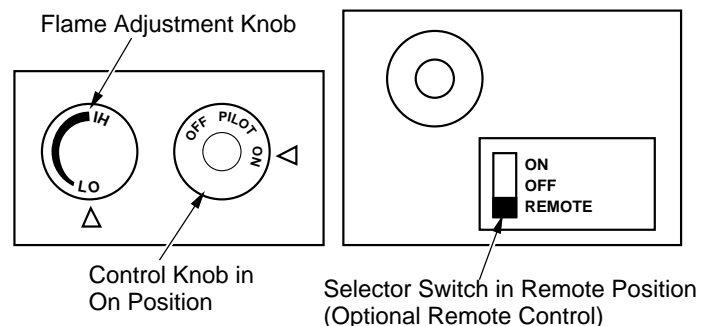

Figure 41 - Setting the Selector Switch, Control Knob, and Flame Adjustment Knob for Remote Operation
1. After lighting, let pilot flame burn for about one minute. Turn control knob to ON position. Adjust flame adjustment knob anywhere between HI and LO. Slide the selector switch to the REMOTE position (see Figure 41). **Note:** The burner may light if hand-held remote ON button was on when selector switch was last turned off. You can now turn the burner on and off with the hand-held remote control unit.